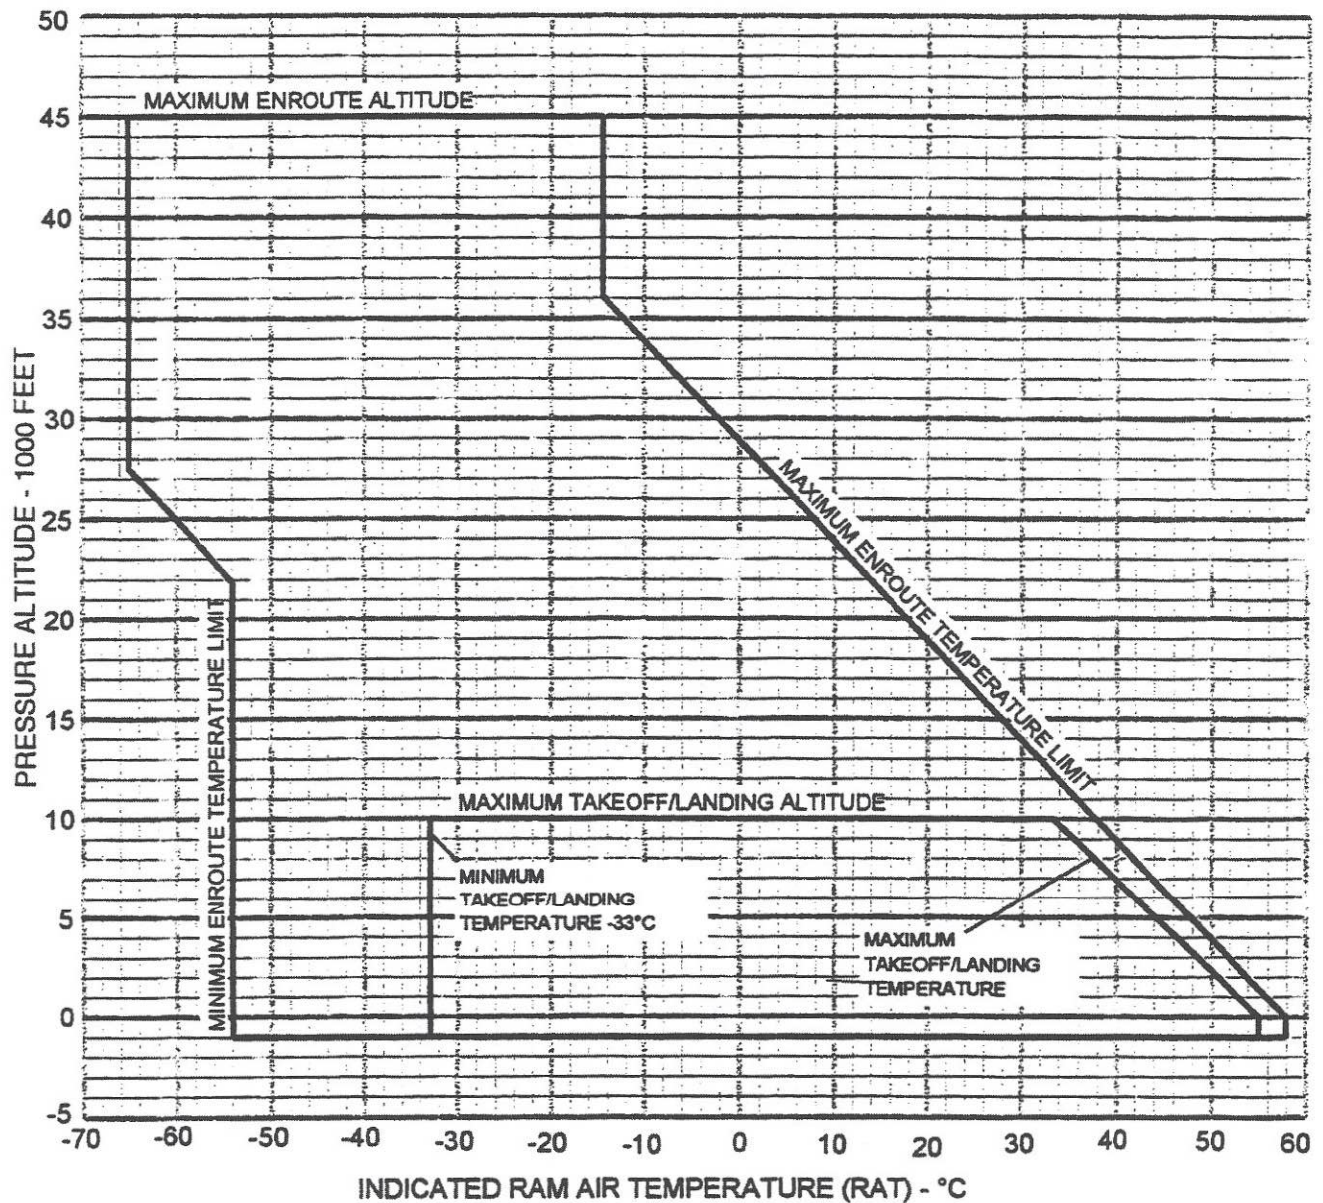

Figure 3-7: Takeoff/Landing/Enroute Temperature Limitations
Continuous engine ground static operation up to and including five minutes at takeoff thrust is limited to ambient temperatures defined in Figure 3-7.
Maximum Ambient Temperature Refer to Figures 3-7 and 4-7,
Maximum Ambient TemperatureRefer to Figure 3-7
Minimum Ambient TemperatureRefer to Figure 3-7
* Maximum Enroute Operating Temperature Limit is the Indicated RAM Air Temperature (RAT) from Figure 3-7.